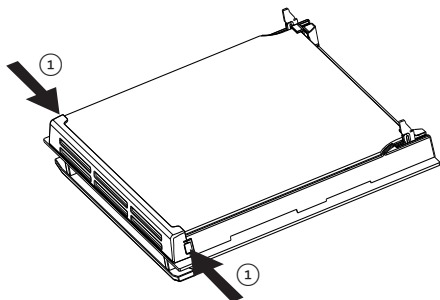

Fig. 8.12
- Touch the glass retainer tabs in on both sides of the door and remove the glass retainer (figs. 8.12, 8.13).